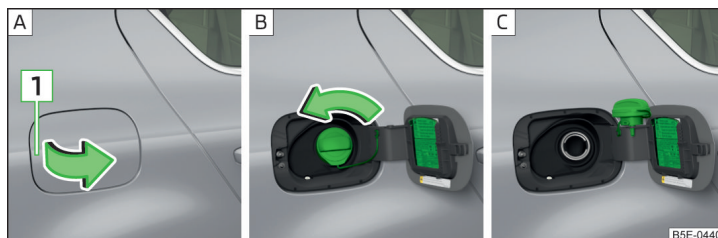

Fig. 173 Tank closure
The correct grades of fuel for your vehicle are stated on a sticker affixed to the inside of the fuel filler flap » Fig. 173 on page 184 - [B].
- Open the cap in the direction of arrow » Fig. 173 - [A].
- Unscrew the filler cap in the direction of the arrow » Fig. 173 - [B].
- Remove the filler cap and place it into the hole on the fuel filler flap » Fig. 173 - [C].
- Place the filler cap onto the fuel filler neck and turn it in the opposite direction to the arrow until it securely engages » Fig. 173 - [B].